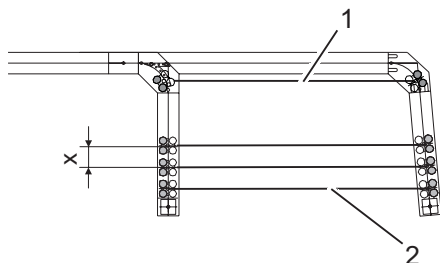

Fig. 17: Stacking arrangement in the stacking area (example)
8. Depending on the door handle and/or lever, align the panel in the stacking area in such a way that the distance from the other panels is dimension x (Fig. 17). Observe the system drawing.
10. Check whether the panel stops are at the correct distance (Fig. 17/dimension x) and parallel to the panel in front of it at the intended position in the stacking area. Otherwise, readjust the parking position.